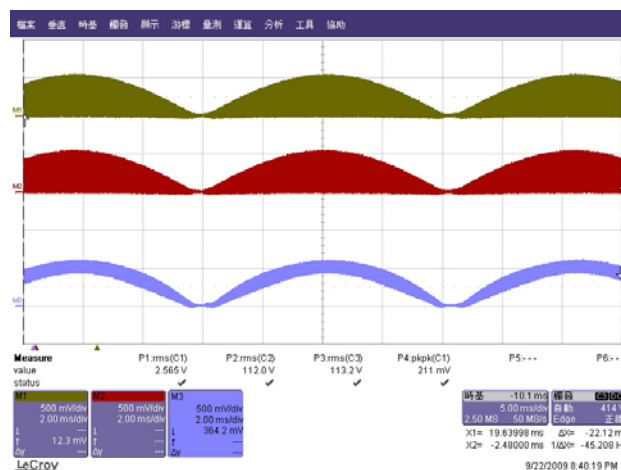
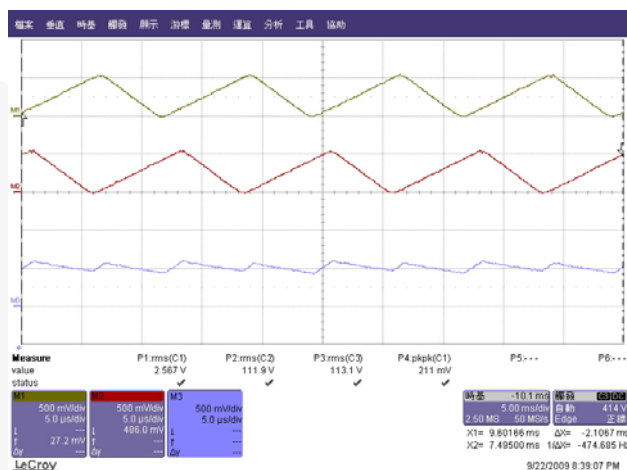

Figure 11.  $115V_{AC}$  / 60Hz Full Load
Figure 12.  $115V_{AC}$  / 60Hz Full Load
- Figure 11 and Figure 12 show the two inductor currents and the sum of two inductor currents at  $115V_{AC}$  line voltage and full-load conditions. The sum of the inductor currents has relatively small ripple due to the ripple cancellation of interleaving operation.